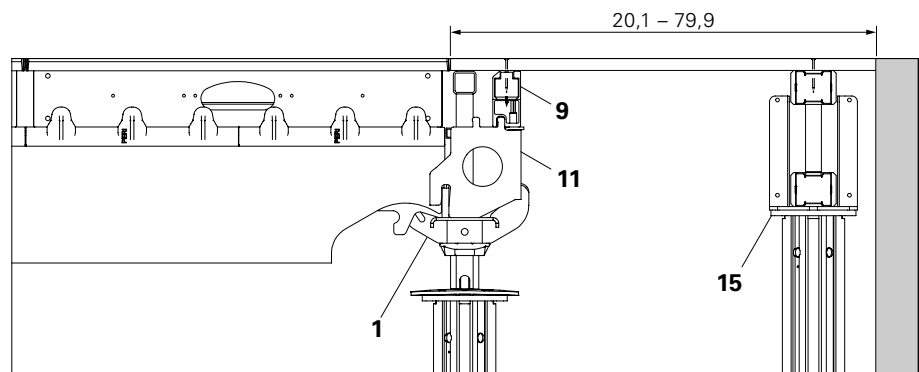
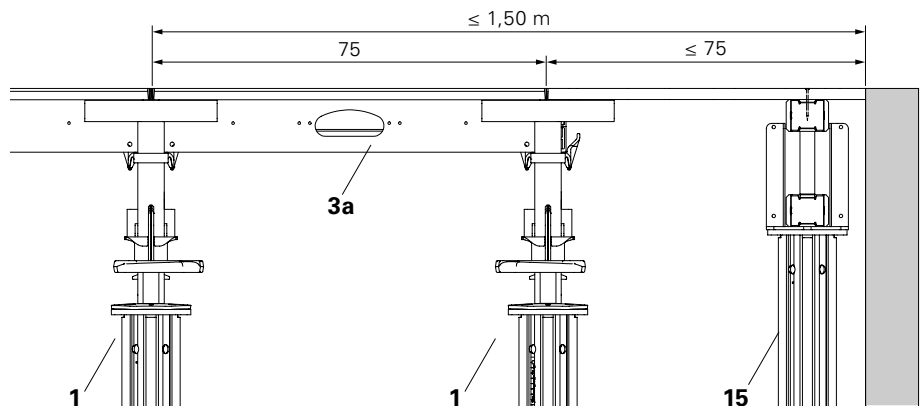
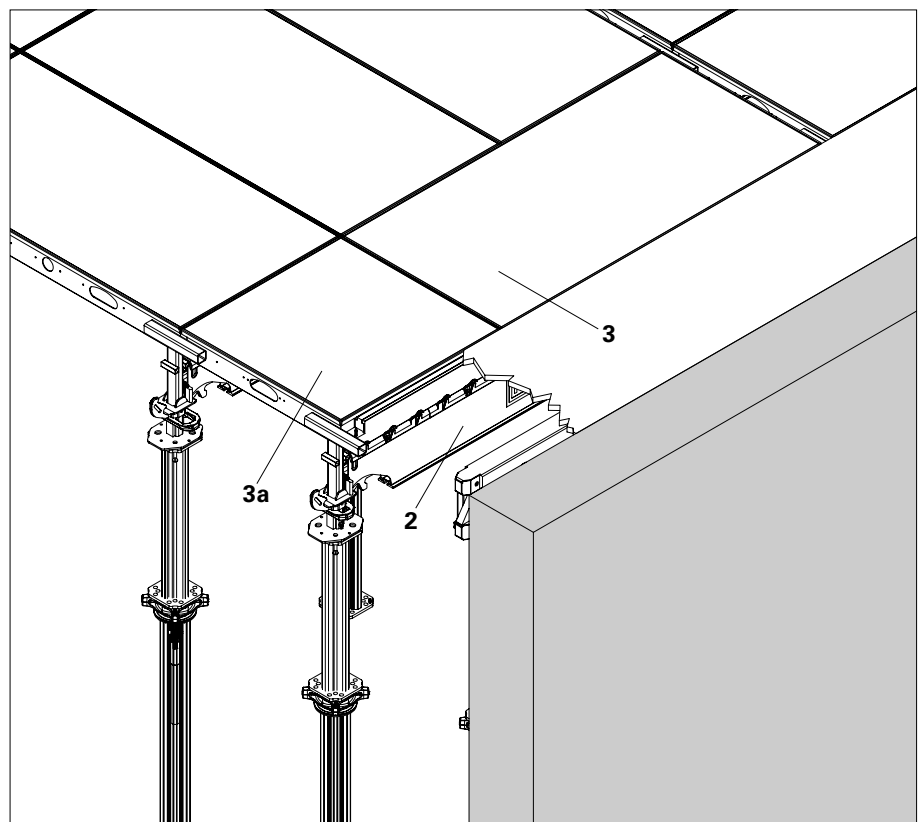
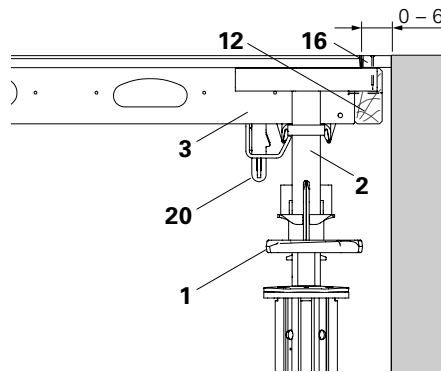

Fig. A5.28
Fig. A5.31
Fig. A5.32
Fig. A5.33
1. Install Main Beam in Drophead SFK (1) (Fig. A5.31), Combihead SCK (7) turned by 180° (Fig. A5.32) or Prophead SSK (6) (Fig. A5.33).
2. Mount End Support (11) and Edge Beam (9).
3. Position additional prop with cross-head and formwork girder (15).
4. Install formlining and secure in position with nails. (Fig. A5.28 - A5.30)
1. Continue forming with prop, Main Beam SLT 225 (2) and transversely-positioned panel (3). Close the spacing to the next prophead with Panel SDP 75 x 75 (3a). (Fig. A5.31 + A5.32)
1. Place Panel SDP (3) over the Main Beam SLT (2) and secure with Panel Wedge Clip (20). (Fig. A5.33 - A5.35)